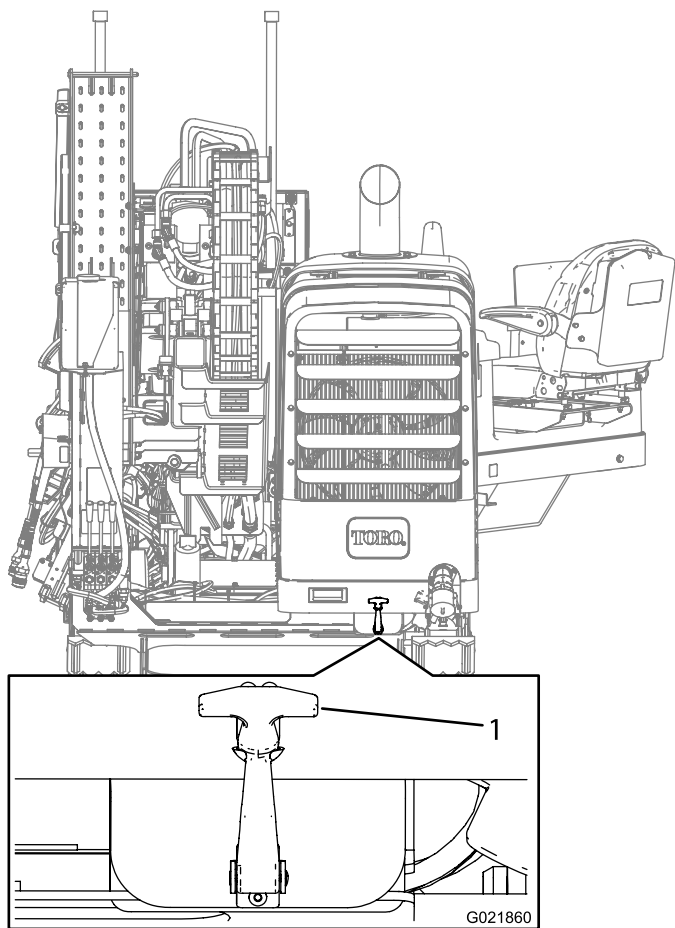

Figure 97
2. Pull the hood latch out (Figure 97).